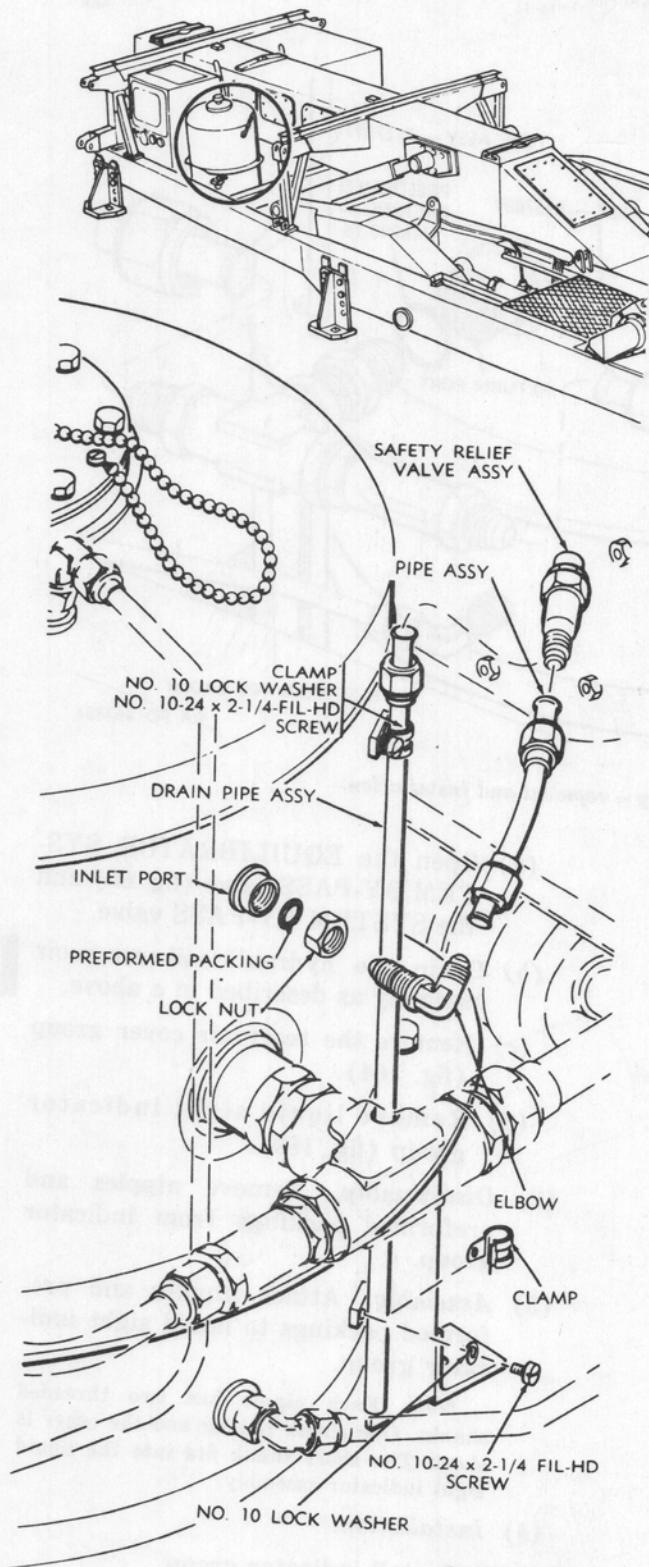

Figure 166. Safety relief valve assembly and drain pipe assembly—removal and installation.
- Remove the drain pipe assembly (fig. 166).